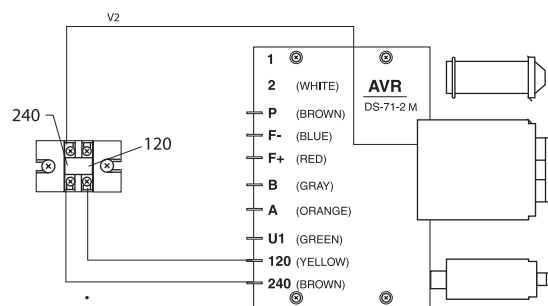

Figure 24: Control Terminal Board, 120/240 Volt Output
- Connect the control terminal board for 240 volts (Figure 24).